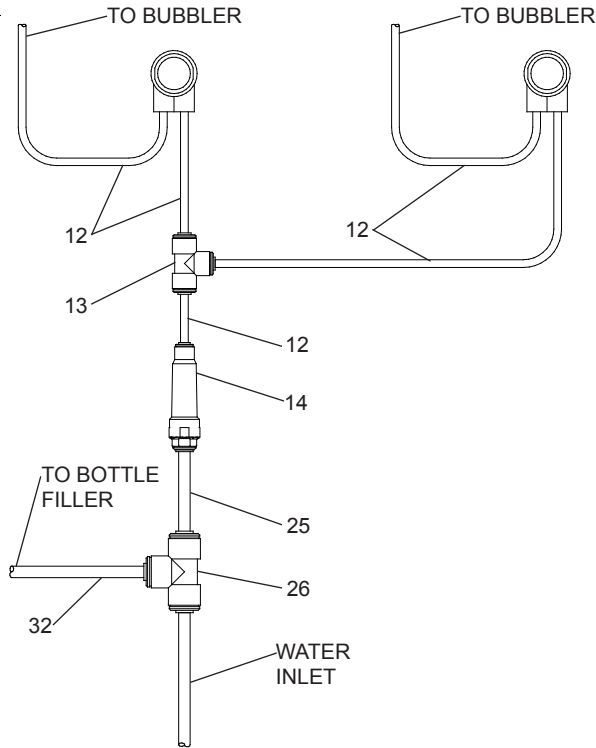

Figure 2 - EZWS-EDFPBM117K Tube Routing
- 3a. (For EZWS-EDFPBM117K) Install strainer on the input tube to the chiller (Fig 2).